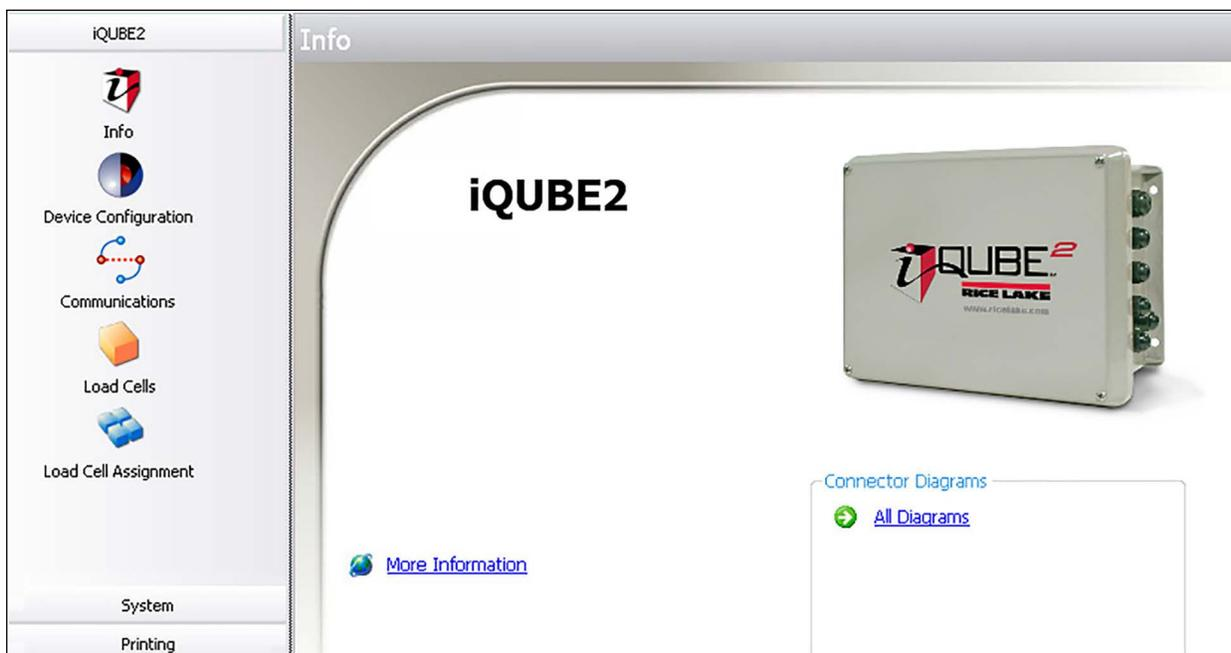

Figure 5-2. VIRTUI2 iQUBE2 Screen
Figure 5-2 shows the default section displayed when a configuration file is opened for editing. A graphic of the iQUBE2, links to more information, and links to connector diagrams are displayed in this section.
1. Select **Device Configuration**. See Figure 5-2 on page 67.